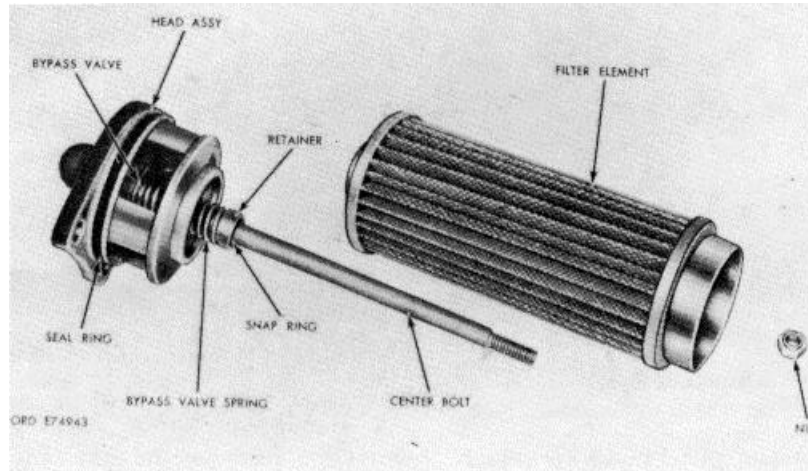

Figure 7-51. Oil filter assembly components.
a. Remove the nut from the filter assembly and separate the filter head assembly from the oil filter element (fig. 7-51).
b. Remove the filter sealing from the filter head assembly (fig. 7-51).
c. Do not remove screw thread inserts (7, FO-10) from filter housing (8), unless replacement of parts is necessary. If necessary, remove screw thread inserts.
a. If screw thread inserts (7) were removed from housing (8), install new replacement parts. Install the inserts 0.005 inch, to one turn, below the surface of housing (8).
b. Install the filter sealing onto the filter head assembly (fig. 7-51).
c. Install the filter head assembly onto the filter element and retain it with the self-locking nut (fig. 7-51). Tighten the nut to 25 to 50 pound inches torque.